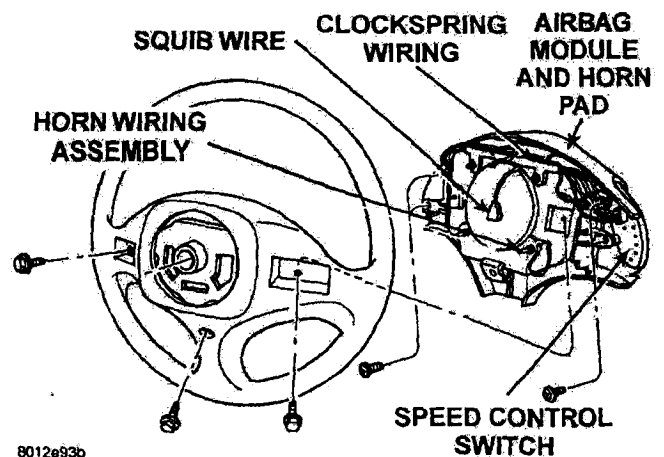

Figure 1
6. From the backside of the steering wheel, remove the three (3) screws that secure the driver’s airbag module to the steering wheel (Figure 1).
28. From the backside of the steering wheel, install the three (3) screws that secure the driver's airbag module to the steering wheel (Figure 1). Tighten the screws to 100 in-lbs (11 N·m).